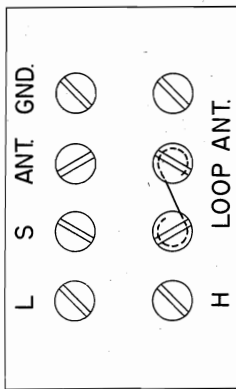

FIGURE 2
- If the loop antenna trimmer is out of adjustment it should be set after the radio chassis is in the cabinet. Set the link on the antenna terminal board to the LOOP position as shown in Figure 2. Adjust the signal generator to 1400 kilocycles and connect its output to a loop containing approximately five turns of wire eight inches in diameter placed eighteen inches from the receiver loop and in the same plane.